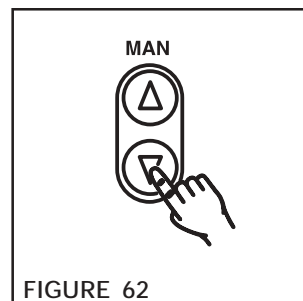

FIGURE 62
3. Press the **MAN**ual Key to set the **FULL SCALE** function (See Figure 62).